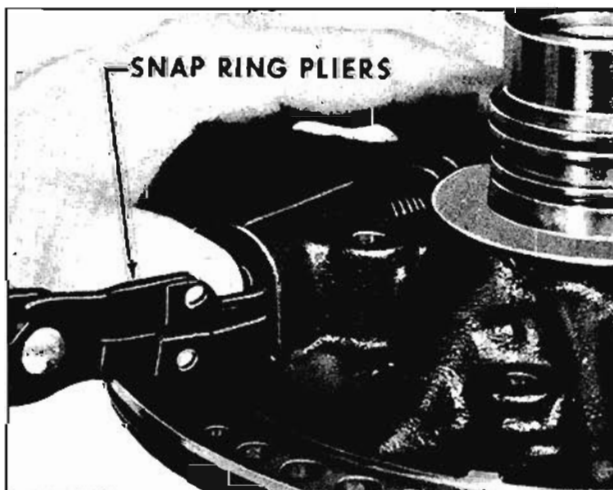

Fig. 6-342 Installing Snap Ring
6. Compress reverse and modulator boost valve with thumb, then install retaining snap ring. (Fig. 6-342)